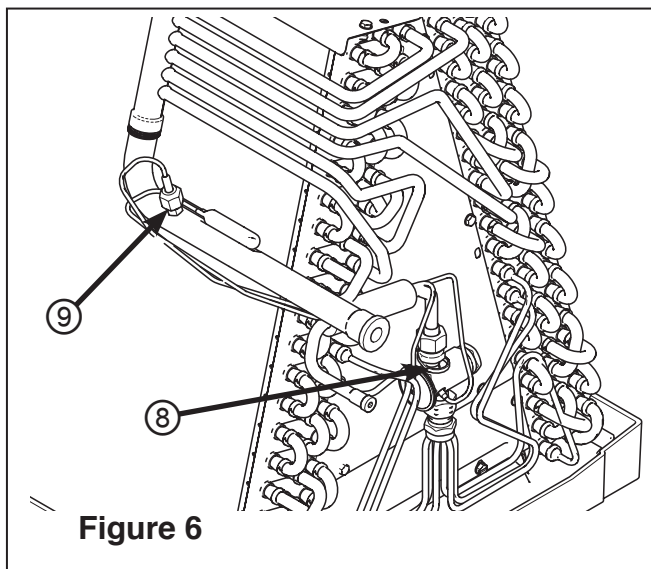

Figure 6
9. Install the Equalizer Line (Figures 6 and 7), hand-tighten until flare bottoms, then use a back-up wrench to tighten securely.